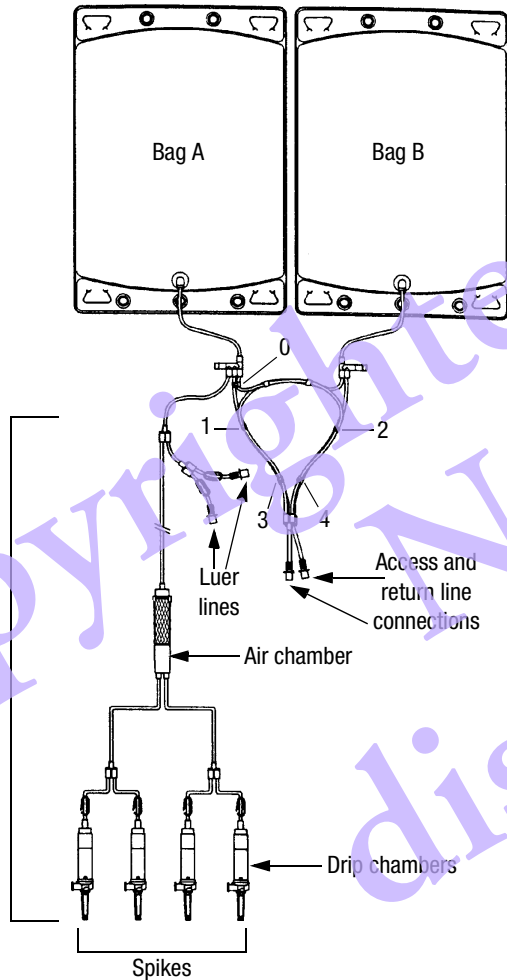

Figure 5-5: BMP Set
See figures 5-5 and 5-6 on page 5-12 for illustration of the BMP set and the hemostat clamp points.
- 4 Hang bag A and bag B next to each other on the IV pole, with bag A on the left as shown in Figure 5-5.